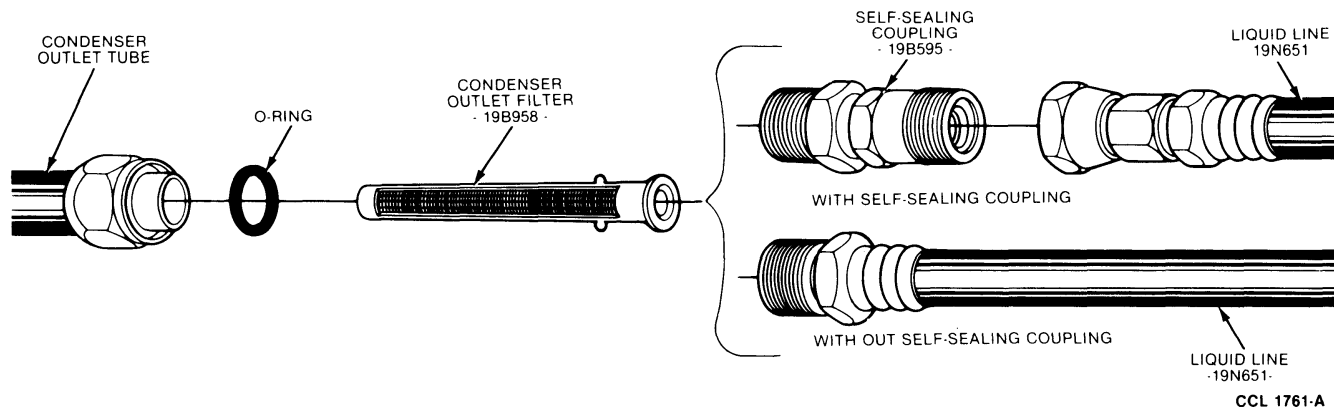

Fig. 23 — Condenser Outlet Filter Installation
2. Install the four (4) screws to attach the four mounting brackets to the radiator support. Tighten the screws to specification.
6. Check to be sure the condenser outlet filter is installed in the condenser outlet tube (Fig. 23).
7. If the liquid line has a self-sealing coupling (Fig. 23, used on vehicles with manual valves at the compressor), remove the self-sealing coupling half from the old condenser and install it on the new condenser. Use a new o-ring lubricated with clean refrigerant oil. Then, connect the liquid line to the condenser at the self-sealing coupling and tighten the connection to specification.
8. If the liquid line does not use a self-sealing coupling (Fig. 23, vehicles *without* manual valves at the compressor), connect the liquid line to the condenser using a new o-ring lubricated with clean refrigerant oil. Tighten the connection to the specified torque.
1. Insert a new condenser outlet filter into the condenser outlet tube, small end first (Fig. 23). Be sure the filter is inserted into the tube until the filter end is against the end of the condenser outlet tube.
4. When replacing a liquid line, remove the entire self-sealing coupling (Fig. 23) from the condenser and discard the coupling (vehicles with manual valves at the compressor).